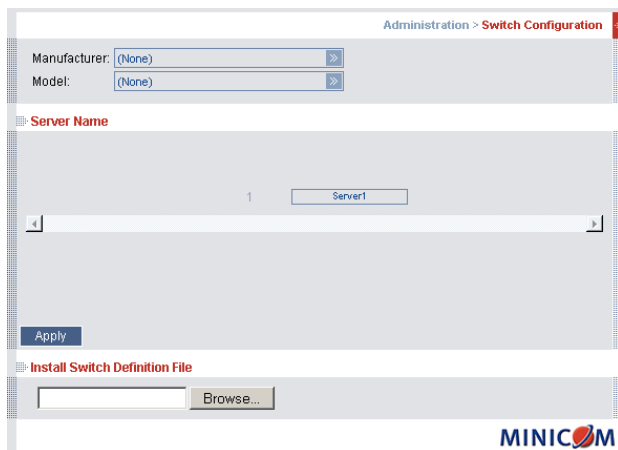

Figure 11 Switch Configuration
1. From the menu click **Switch Configuration**. The Switch Configuration window appears, see Figure 11.